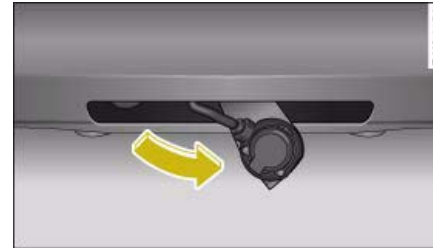

Fig. 215 Area below rear bumper: Folding up the socket
- Then swivel the socket up ⇒ fig. 215 **as far as it will go**. The mounting fixture will be closed automatically.